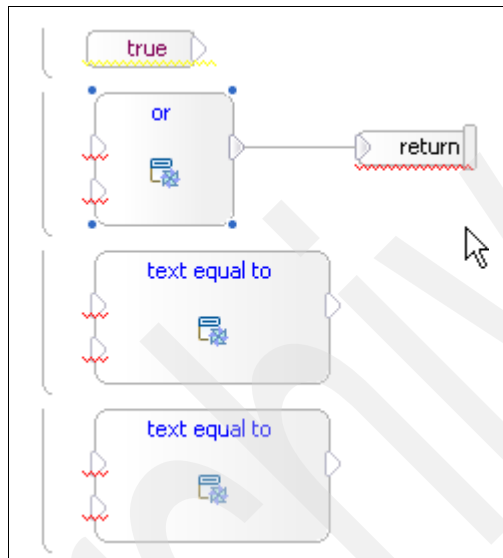

Figure 3-28 Case element design
- d. Wire the **or** activity to the **return**, which leaves the true activity not wired to anything else. See Figure 3-28.